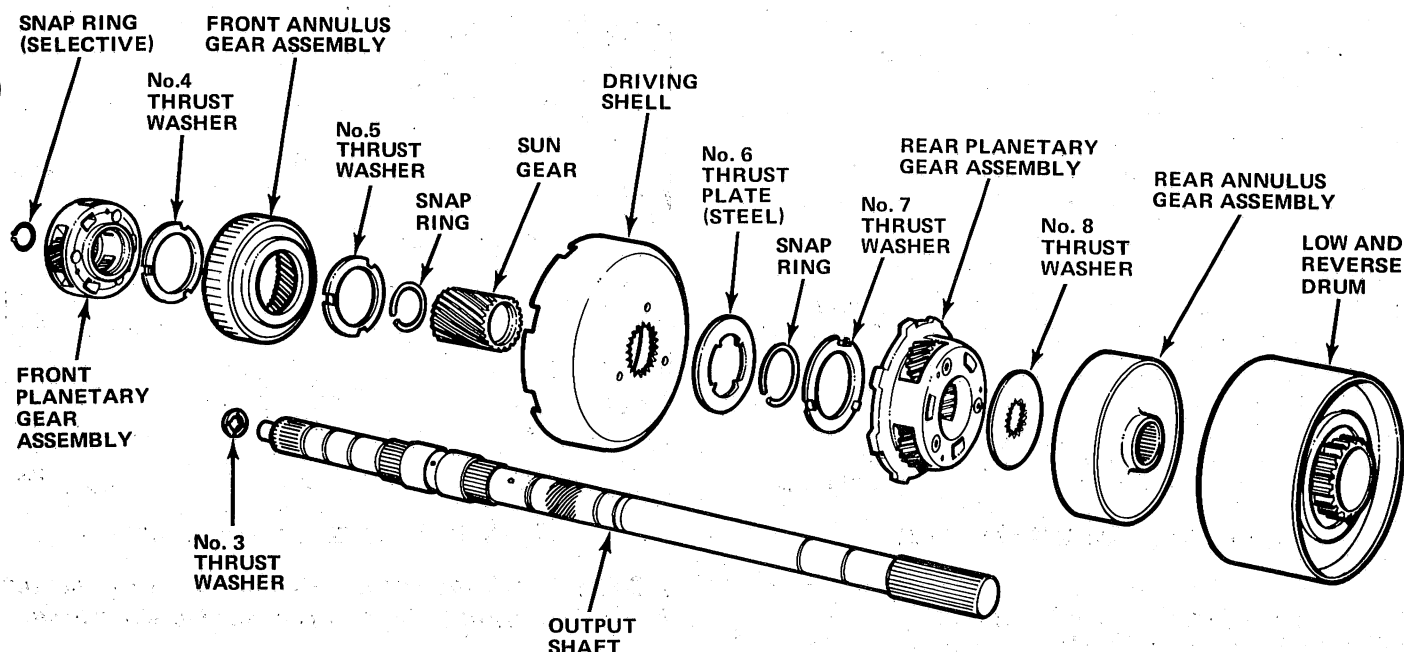

Fig. 2C-85 Planetary Gear Assembly—Model 727
(1) Install rear annulus gear on output shaft (fig. 2C-85).